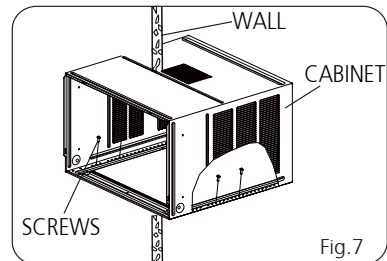

Fig.7
3. Install the cabinet into the wall and secure. Ensure the foam seals are not damaged. Flash, seal or fill gaps around the inside and outside to provide satisfactory appearance and protection against the weather, insects and rodents. (see Fig.7)